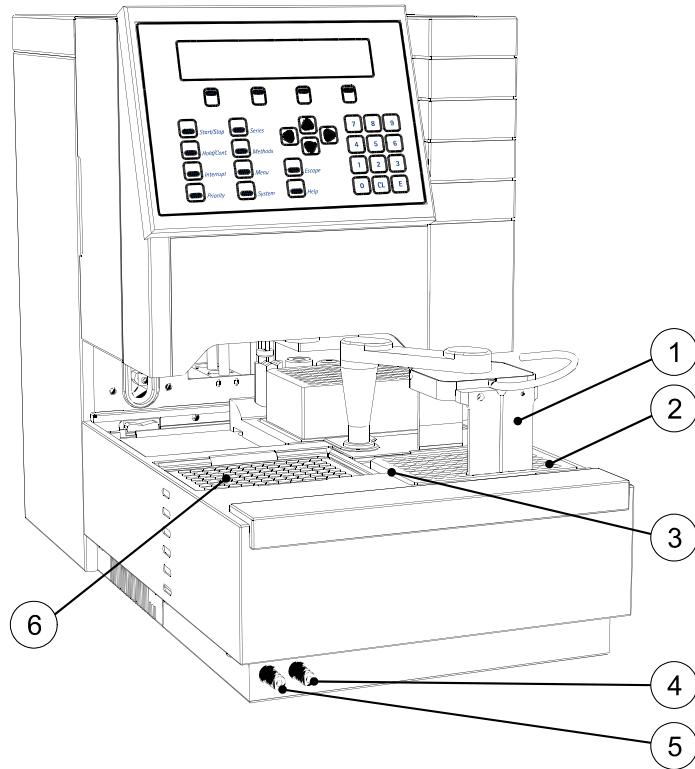

Figure 7 Feeder Option
to move the left lift up or down (refer to Figure 7)
to move the right lift up or down (refer to Figure 7)
1. Place six or two plates (depending on settings) in the right lift (refer to Figure 7).
6. Place a plate on the right lift (see Figure 7, number 2).